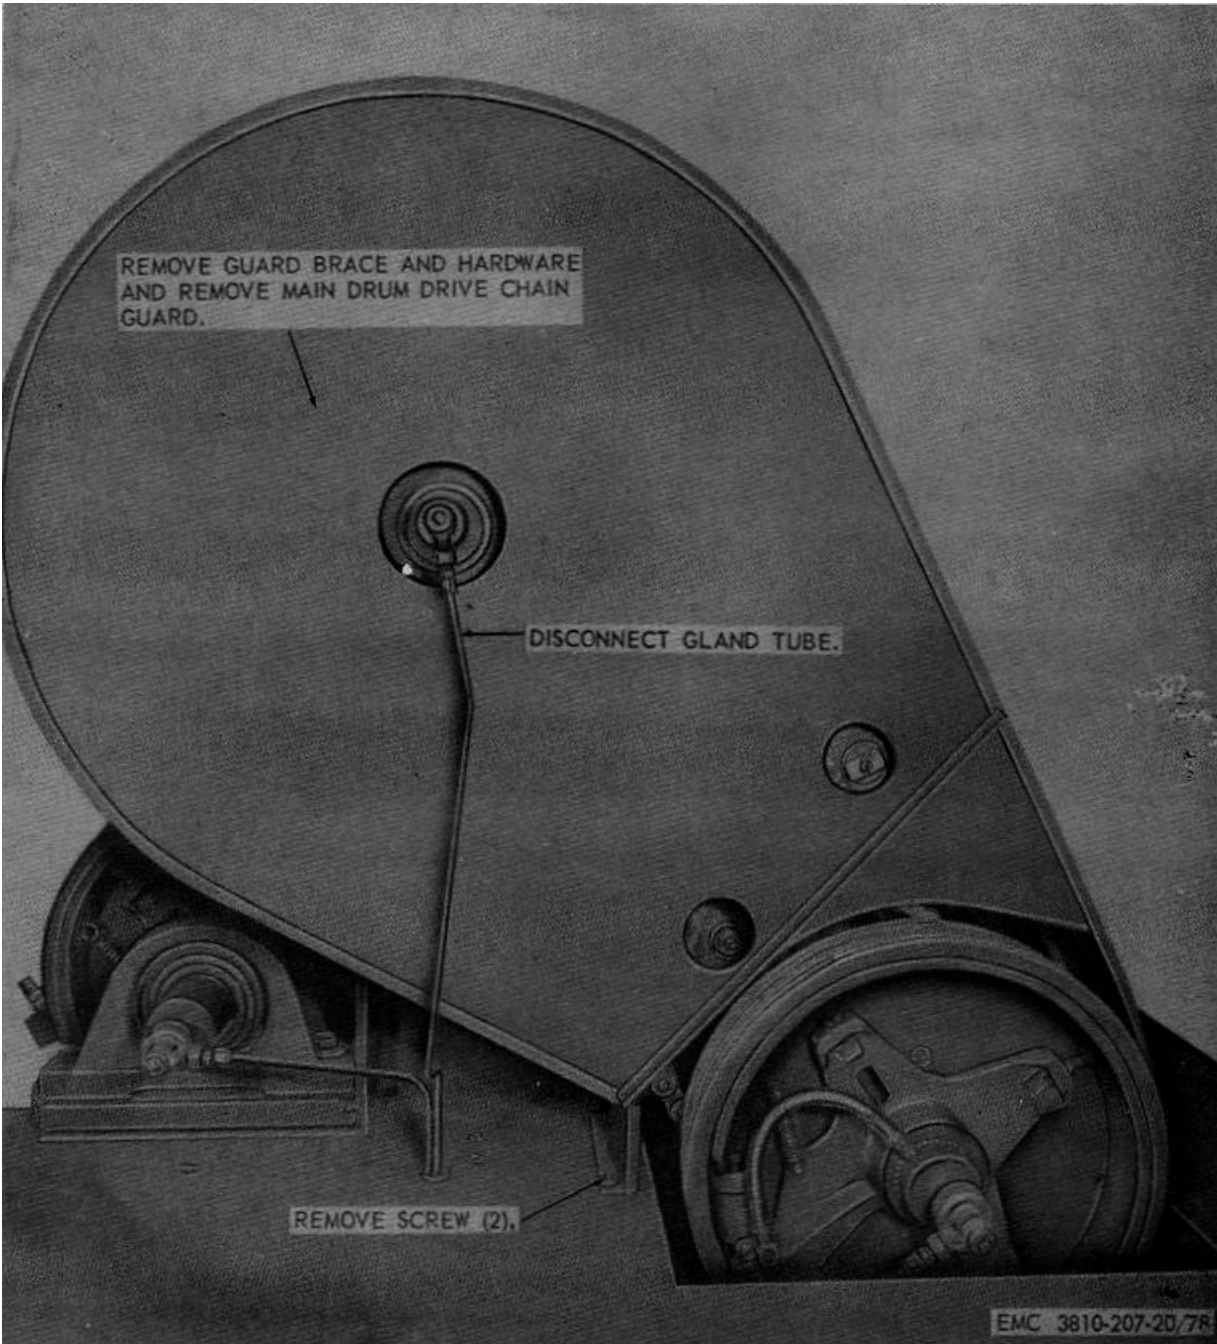

Figure 78. Main drum drive chain guard, removal and installation.
a. *Removal.* Remove the main drum drive chain guard as instructed on figure 78.
- (1) Clean all parts of the main drum drive chain guard with an approved cleaning solvent.
- (2) Inspect all parts for breaks, bends, and other damage. Repair or replace defective parts.
c. *Installation.* Install the main drum drive chain guard as illustrated on figure 78.